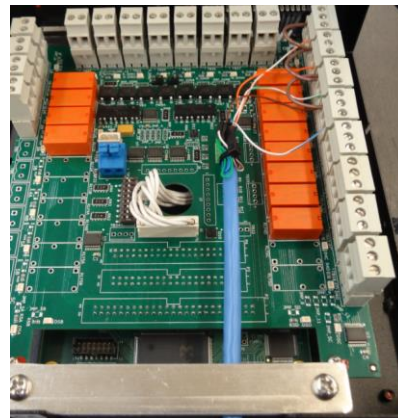

Figure 2. Net I/O COMMON connections
- Step 3:** On the Net I/O, connect COMMON terminals "CMN" on outputs 1C,1D,2C,2D to the Signal Tower BROWN wire using 18-20 22AWG hookup wire (Figure 2).